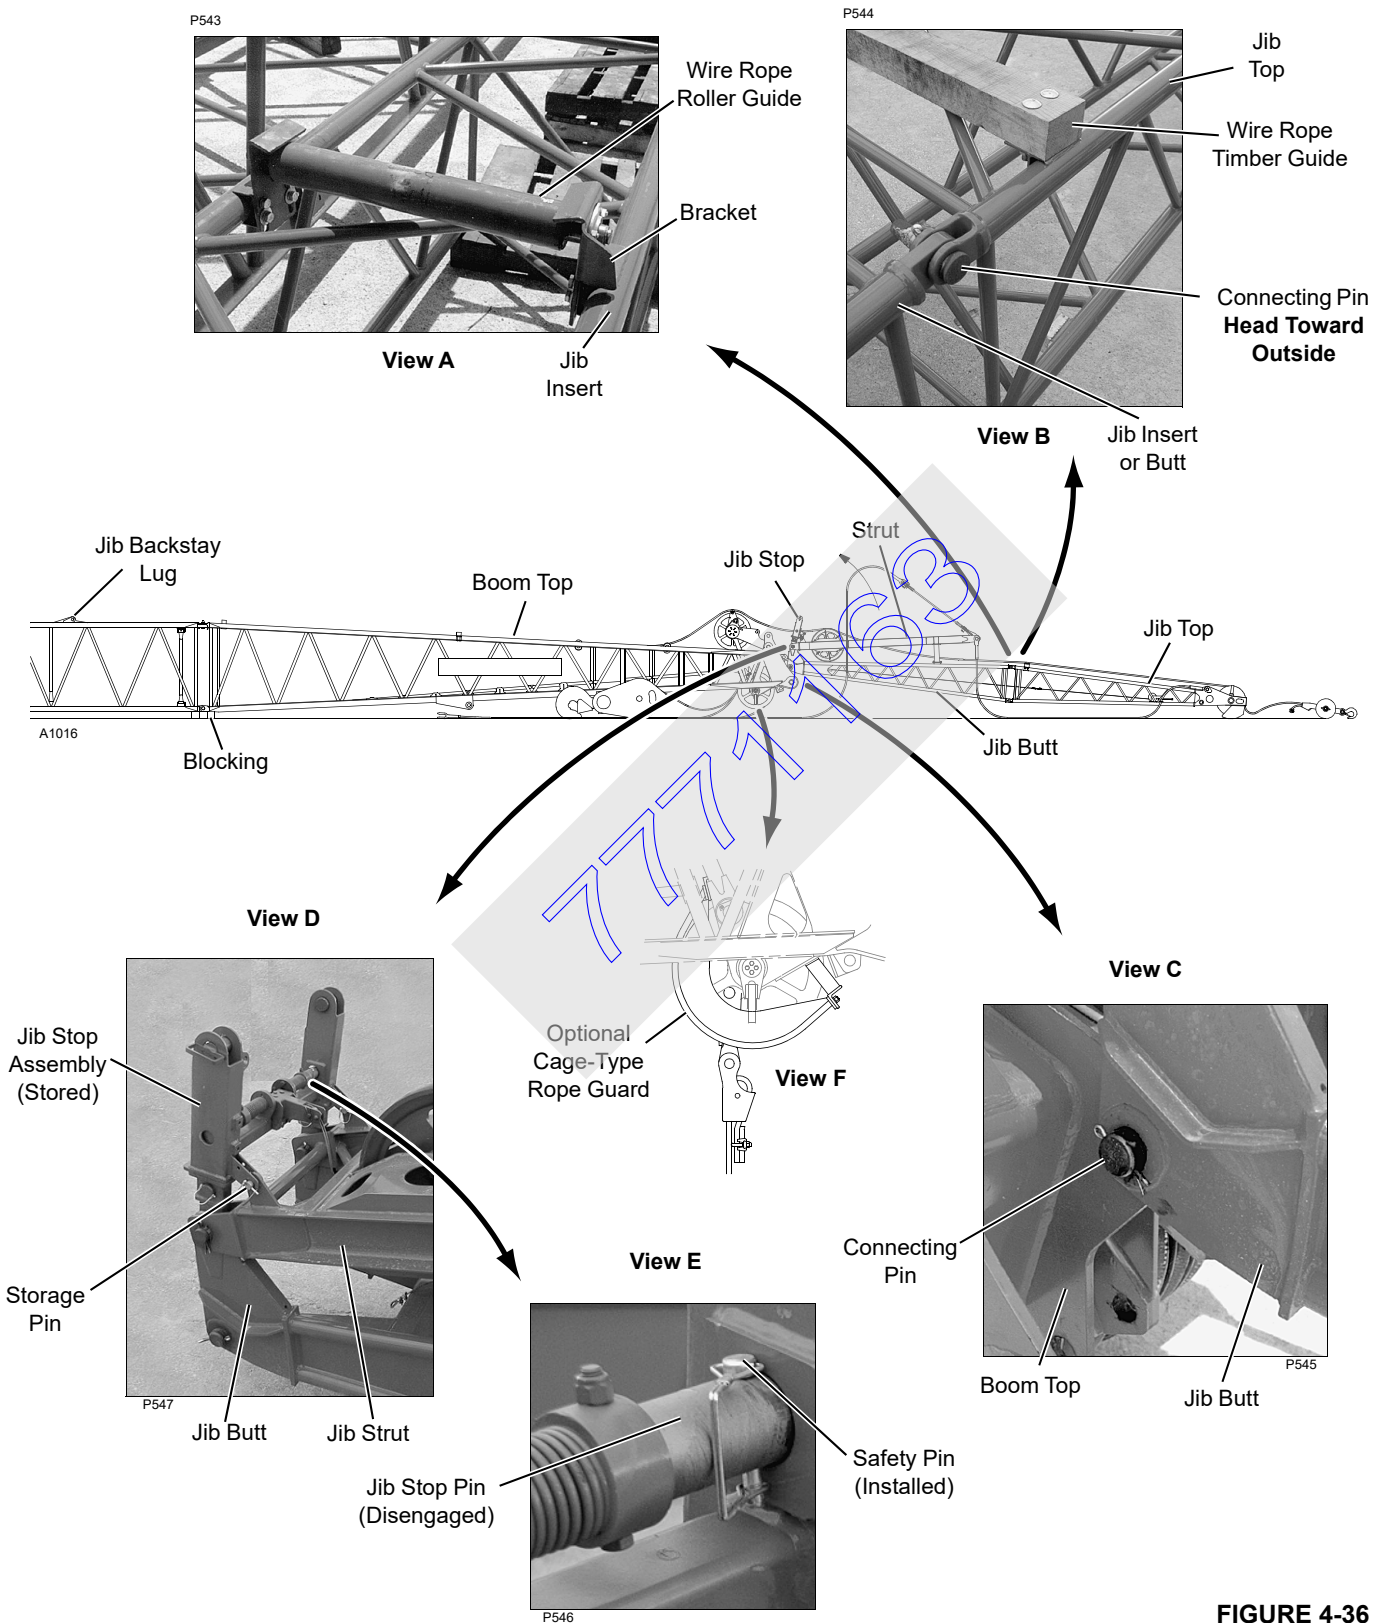

FIGURE 4-36
See Figure 4-36 for following procedure unless otherwise noted.
2. Remove storage pins (Figure 4-36, View D) and lower jib stop assembly to boom top. Store storage pins in lugs on jib stop frame (View B).
4. Install safety pins in hole in both jib stop pins (Figure 4-36, View E).